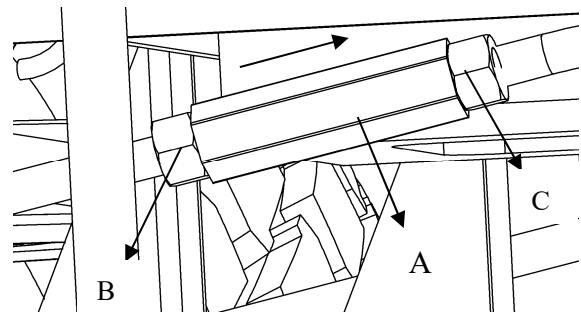

Fig. 22
- If the right wheel rotates clockwise, slightly loosen the nuts(B and C), then turn the neutral buckle (A of Fig. 22) counterclockwise(from the direction of arrow) until the wheel does not rotate. At last, tighten the nuts(B and C) securely.